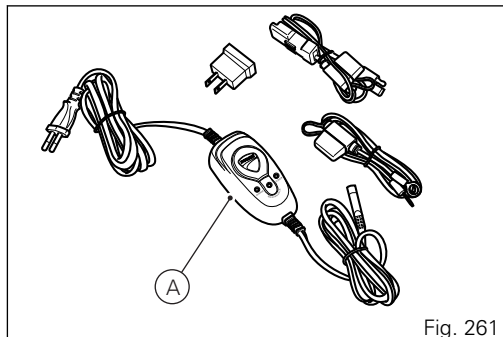

Fig. 261
Your motorcycle features a special connector (1) for the supplied Ducati-approved battery charger (A, Fig. 261) for lithium batteries, available from our sales network.